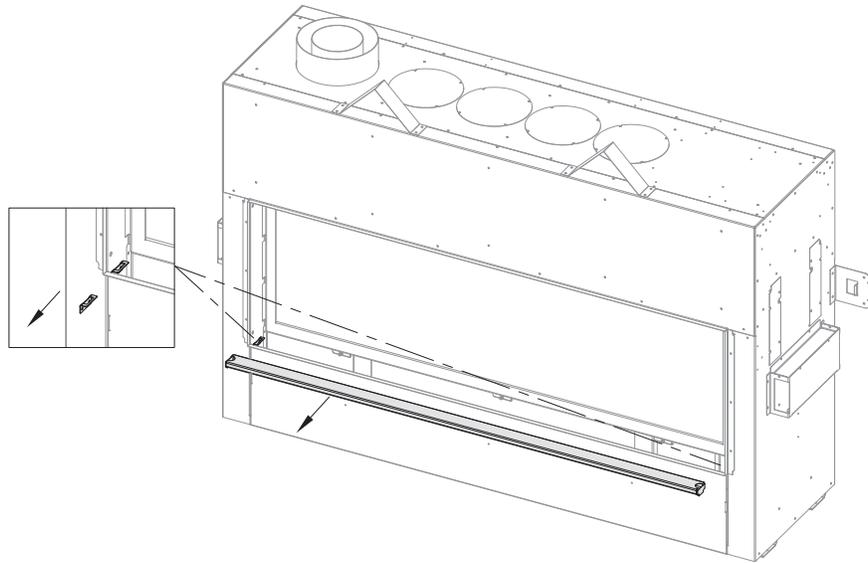

Figure 3.1, Remove Access Cover and Access Cover Brackets
2. Remove and discard access cover brackets, (2) screws each. See Figure 3.1.